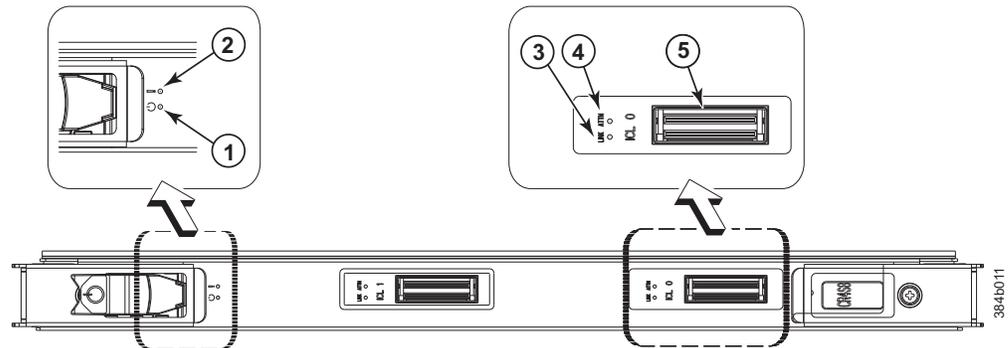

Figure 27. Core switch blade (CR4S-8)
1. Check the LED indicators on the core switch blade (Figure 27). The LED patterns may temporarily change during POST and other diagnostic tests; for information about how to interpret the LED patterns, see Table 11 on page 56.
Figure 27 shows the CR4S-8 core switch blade and its components.